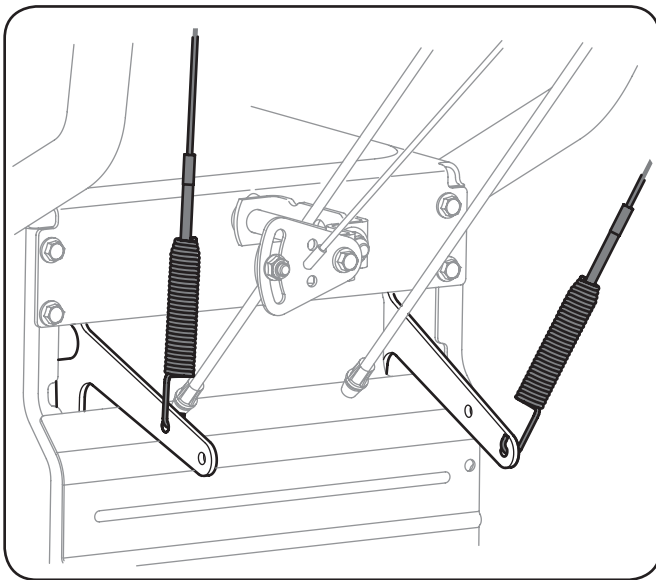

Figure 3-11
5. Securely hook the cable's spring into the forward hole of the respective actuator bracket. See Fig. 3-11.